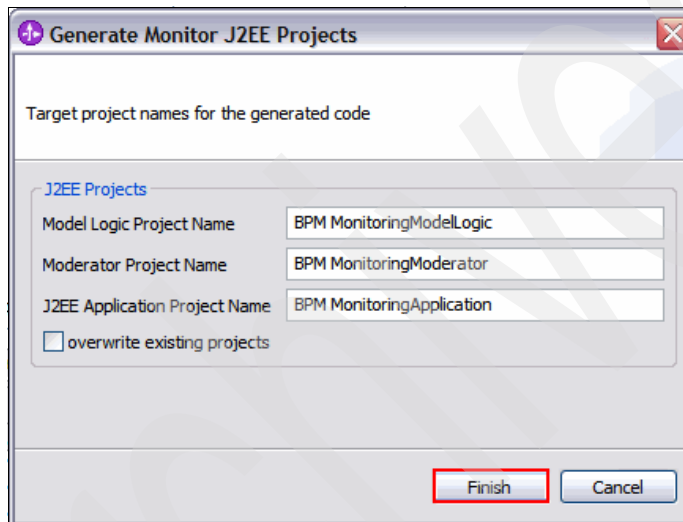

Figure 7-116 Generate Monitor J2EE Projects window
2. In the Generate Monitor J2EE Projects window (Figure 7-116), accept the name defaults and then click **Finish**.